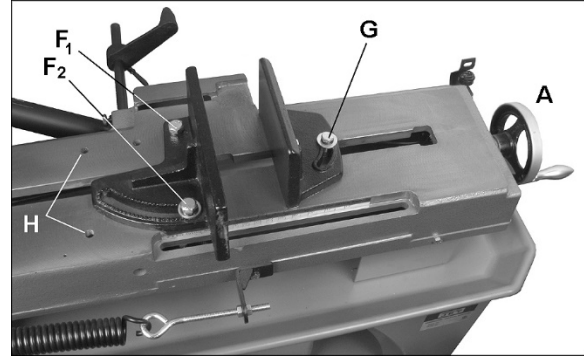

Figure 8-17: Vise Positioning (712V only)
1. Remove bolts (F_1/F_2 , Figure 8-17) from fixed jaw.
3. Adjust floating jaw parallel to fixed jaw by loosening bolt (G, Figure 8-17), adjusting to parallel, and retightening bolt. Use handwheel (A) to move floating jaw to open and close vise.
To set vise for maximum width of stock cutting, position fixed jaw in outermost set of holes (H, Figure 8-17).